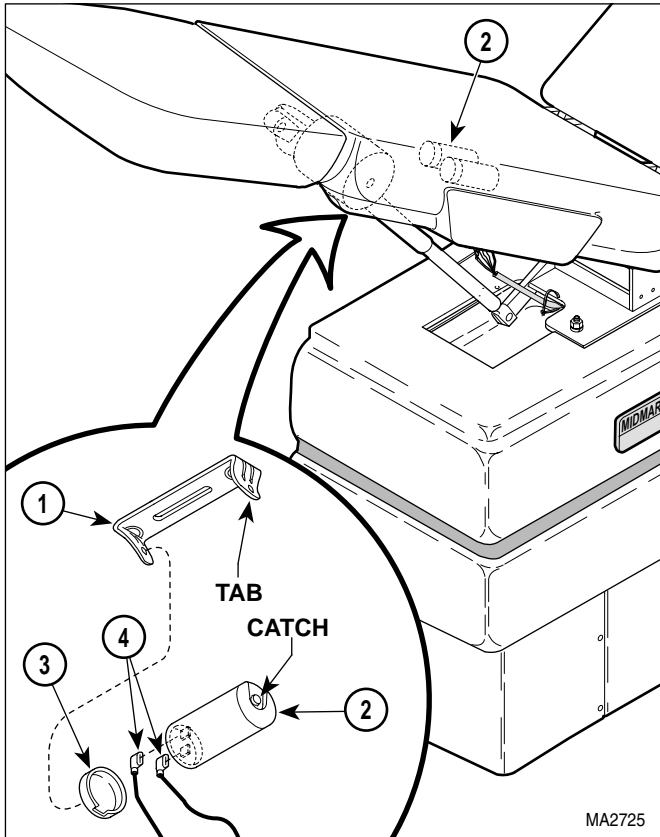

Figure 4-18. Tilt Capacitor Removal / Installation
- (2) Unplug power cord from wall outlet.
- (3) Using a screwdriver, pry tab of mounting bracket (1, Figure 4-18) outward and separate tilt capacitor (2) from mounting bracket.
- (4) Remove capacitor cap (3) from tilt capacitor (2).